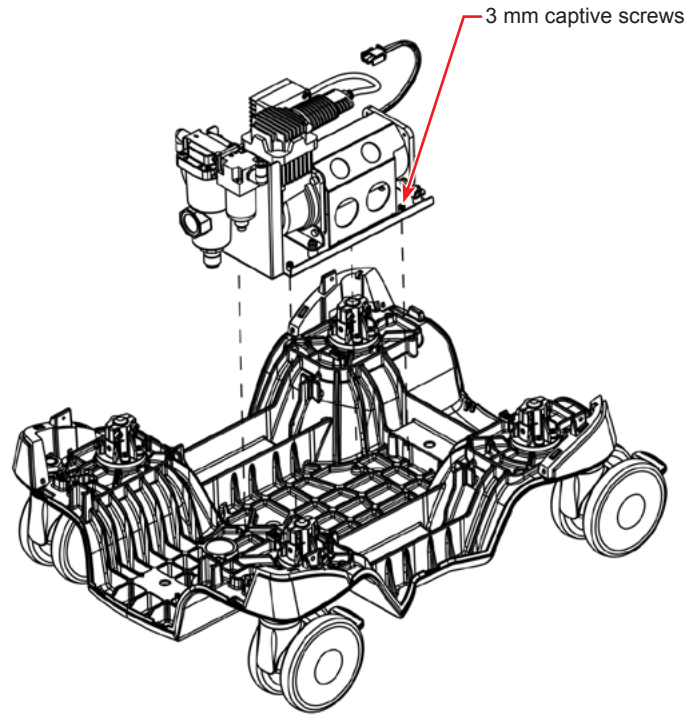

Figure 3-48 **Pneumatic Pump Removal**
- 39.14 Loosen four 3 mm captive screws securing pump to chassis (see Figure 3-48).